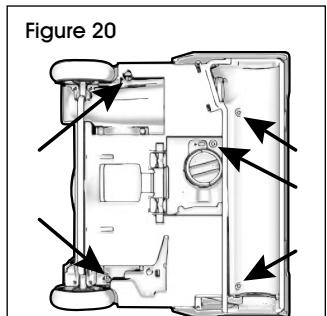

Figure 20
- To service the belt, remove five screws from underneath the base. (See Figure 20)